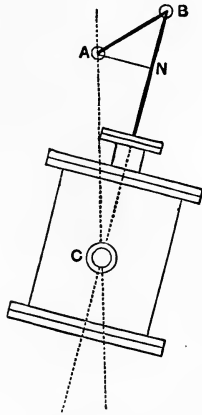

Fig. 1.
1. Fig. 1 illustrates the mechanism of the oscillating cylinder engine. If the crank A rotates with uniform angular velocity ω determine the angular velocity of the cylinder in the position shewn.